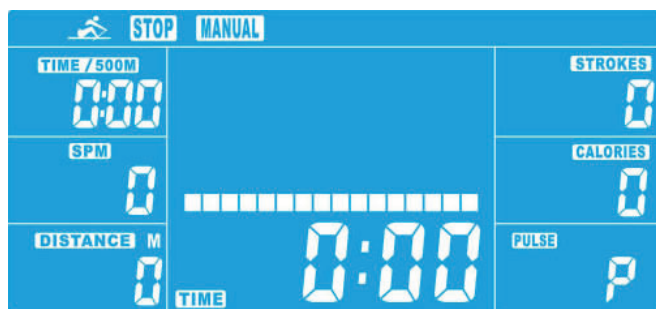

Figure 2
2. Place the seat (25) on the sliding beam (19). Now assemble the two square buffers (61) to the sliding beam (19), using a hex nut (96) and hex bolt (85) - see figure 2.
3. Press the UP or the DOWN button to set a target value for TIME/DISTANCE/CALORIES and PULSE. Confirm each entry with the ENTER button (fig. 2).